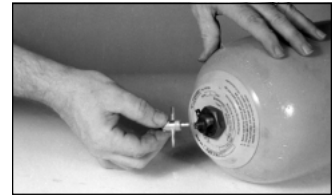

FIGURE 12
- Figure 12.** With port assembly firmly in place, install valve core into the bladder stem. Slowly pressurize the bladder, using dry nitrogen with sufficient pressure (approximately 40-50 psi) to hold poppet assembly in place so both hands are free to continue with assembly.